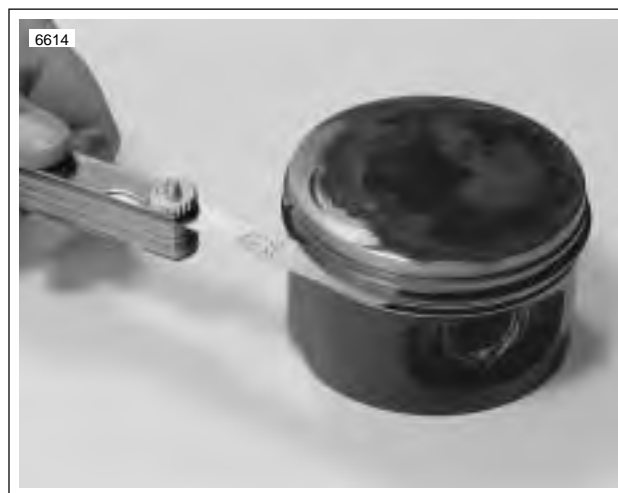

Figure 3-79. Measuring Ring Clearance in Groove
- See Figure 3-79. Check for proper side clearance with thickness gauge, as shown. See 3.1 SPECIFICATIONS.